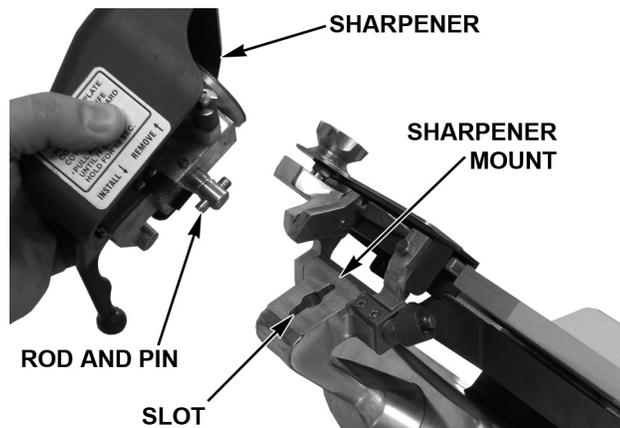

Fig. 4
- The Sharpener (Fig. 4) is mounted on top of the slicer.